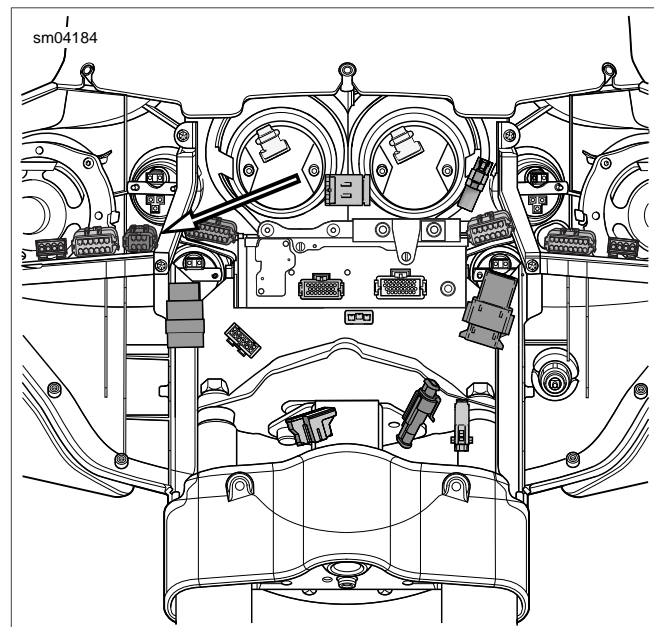

Figure 4-19. Twist Grip Sensor Jumper Harness Connector (FLHX, FLHT/C/U)
10. **FLHX, FLHT/C/U:** See Figure 4-19. Remove outer fairing. See 2.37 UPPER FAIRING AND WINDSHIELD: FLHX, FLHT/C/U. Remove twist grip sensor jumper harness connector [204], 6-place Molex (black), from T-stud at top of right fairing support brace (inboard side) and disconnect.